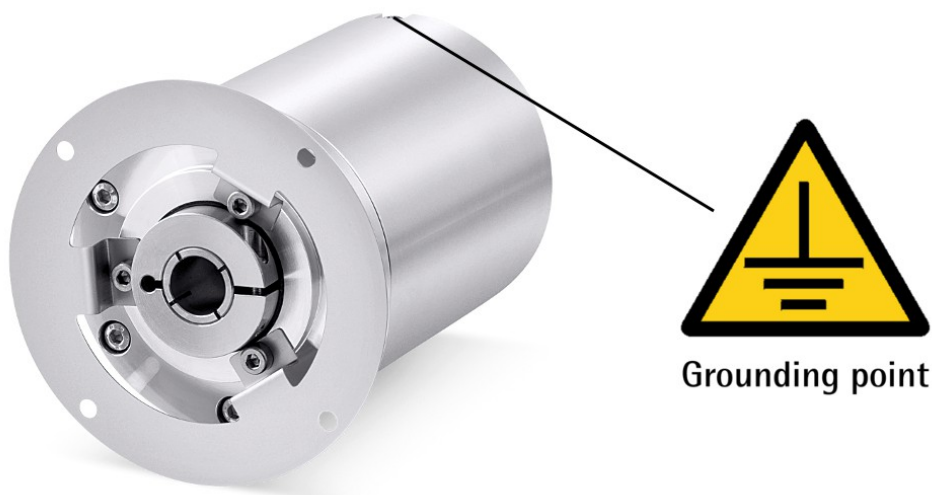

Figure 2 - Electrical connection and grounding point
6.1 PWR power supply and Ethernet connection (Figure 2)
6.3 Ground connection (Figure 1 and Figure 2)
To minimize noise connect properly the shield and/or the connector housing and/or the frame to ground. Connect properly the cable shield to ground on user's side. Make sure that ground is not affected by noise. It is recommended to provide the ground connection as close as possible to the device. We suggest using the ground point provided in the enclosure (see Figure 1 and Figure 2).